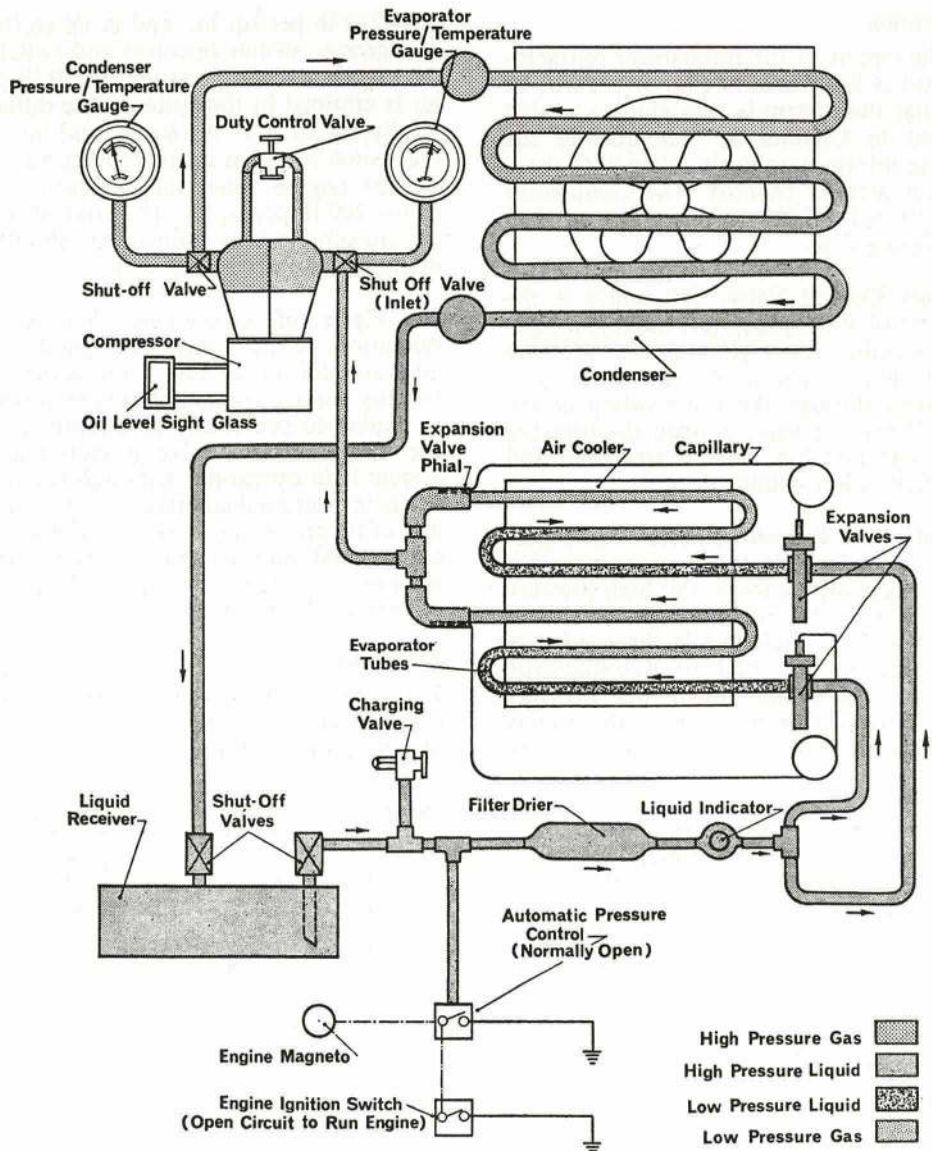

Fig. 3. REFRIGERATION CIRCUIT
Fig. 3 in the previous chapter, and the refrigerant used is freon (F12). The compressor is driven by V-belts from an electric motor fitted with a centrifugal clutch pulley. The fan that is bolted to the clutch pulley is used to force air through the condenser assembly. The fan that is mounted at the other end is enclosed in a casing that is bolted to the cooling assembly, and air that has been led to the suction box is taken away from the fan by canvas ducts. Provision is made for the air inlet and discharge openings to be either at the top or at the side of the unit whichever is the more convenient.
(a) Remove the caps from the four capped shut-off valves, C, D, E and G (Chap. 2, Fig. 3).
21. The circuit of the mechanical refrigeration plant is illustrated at Fig. 3. It will be noted that the system is very similar to that described in Chapter 2, consequently the following information deals solely with those items not already covered. The compressor is a Prestcold PS.200 twin-cylinder vertical reciprocating type.
24. **Cycle of Operations.** The cycle of operations of the refrigeration plant is shown diagrammatically at Fig. 3 and is the same as for any vapour compression type system, i.e. as explained previously in Chapter 2. When the duty control valve is closed and the system is in operation, although the refrigerant is in continual circulation it does not lose any of its properties. It is in turn evaporated, compressed and condensed, and does not require renewal except to replace losses caused by leakage in the system.
30. It will be noted (Fig. 3) that a charging valve is incorporated in this system. It is positioned on the top of the air cooler and is connected by a pipeline to a T-connection in the liquid line between the receiver and the filter drier. Approximately 18 lb of refrigerant is required for a full charge; the procedure is given in A.P. 4350A.